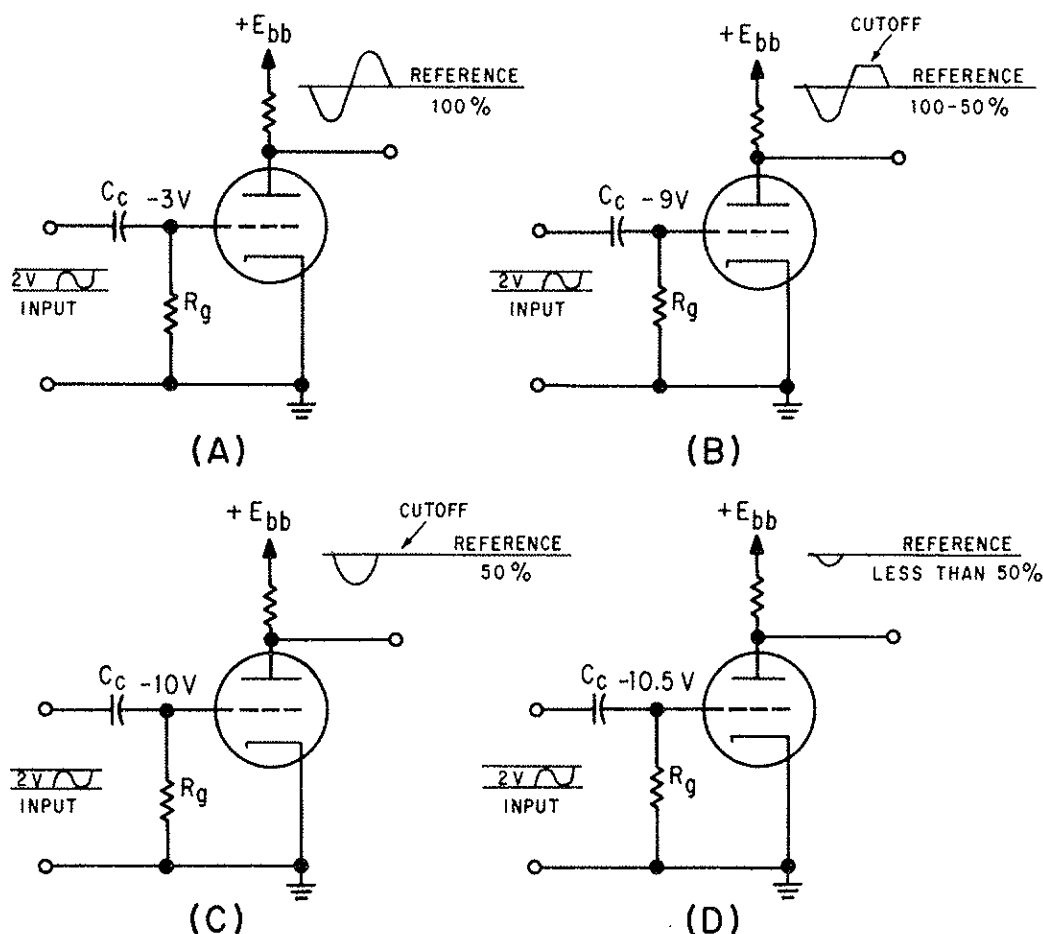

Figure 1-27.—Classes of amplifier operation.
An amplifier biased into CLASS A operation, is one in which conduction through the tube occurs throughout the duration of the input signal. Such an amplifier is shown in figure 1-27(A). This is the same type of circuit with which you are already familiar. Notice that when you compare the input to the output you can see that the tube is always conducting, and that the entire input signal is reproduced at the output.
View (B) of figure 1-27 depicts an amplifier biased into CLASS AB operation. Notice that in this application, grid bias has been increased to -9 volts. We will assume that the tube reaches cutoff when the voltage on the grid is -10 volts. Under these conditions, when the input reaches -10 volts, the tube will cut off and stay cut off until the input goes above -10 volts. The tube conducts during the entire duration of the positive alternation and part of the negative alternation. If you remember back in the discussion of distortion, it was pointed out that
A CLASS B biased amplifier is one in which the tube will conduct for only half of the input signal duration. This is accomplished by simply biasing the amplifier at cutoff. View (C) of figure 1-27 depicts a class B biased amplifier.
CLASS C amplifiers are biased below cutoff, so that the tube will conduct for less than half of the input signal cycle duration. View D of figure 1-27 depicts a class C amplifier. Notice that the tube is biased one-half volt below cutoff. The tube will only conduct on that part of the positive alternation that is above +.5 volts. Therefore, the tube conducts for less than one-half cycle of the input. Again, this class can be applied only where severe distortion can be tolerated.